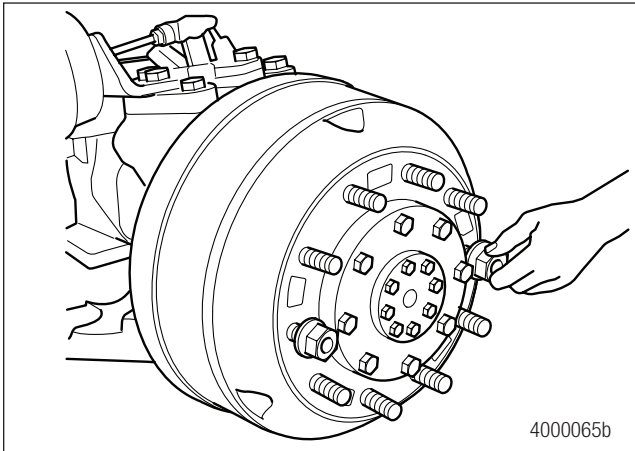

Figure 8.38
9. Install the brake drum. Figure 8.38.